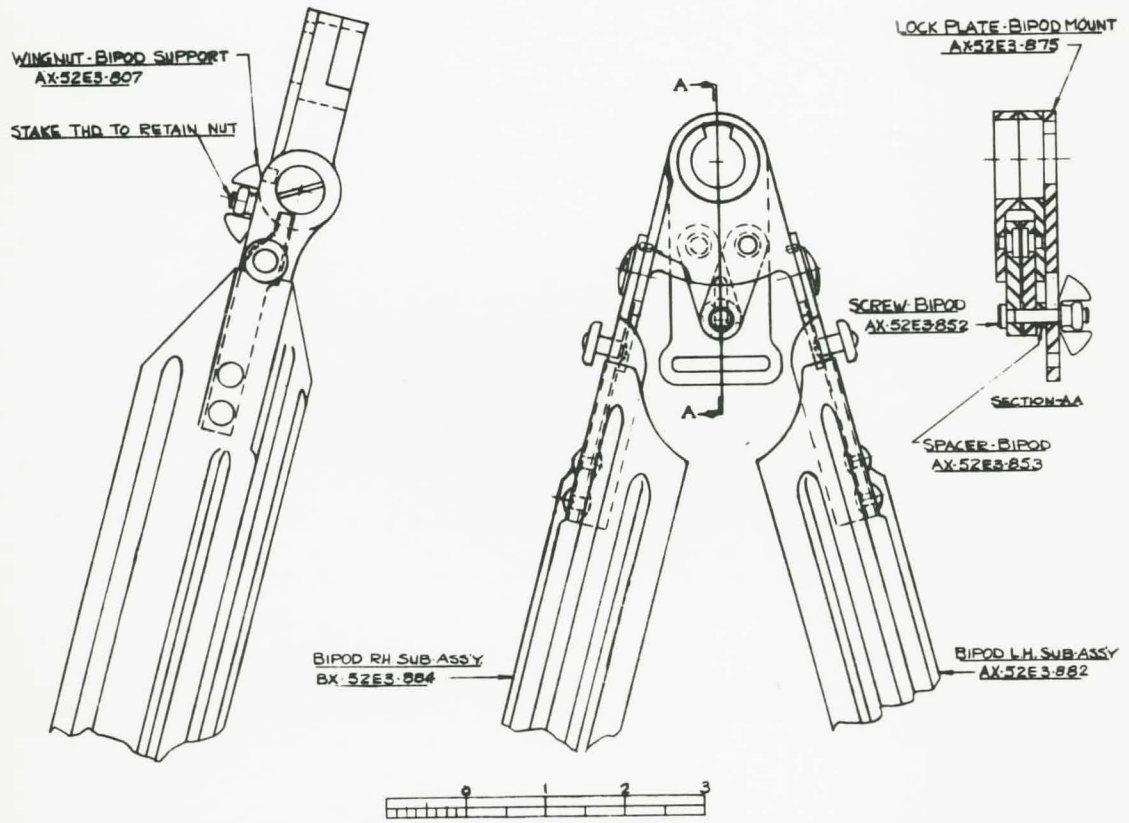

FIG. 11 - BIPOD ASSEMBLY, ST'D.
- a. The bipod group is a unit assembly and not to be taken apart, only for repairs. See Fig. 11, Page 23.